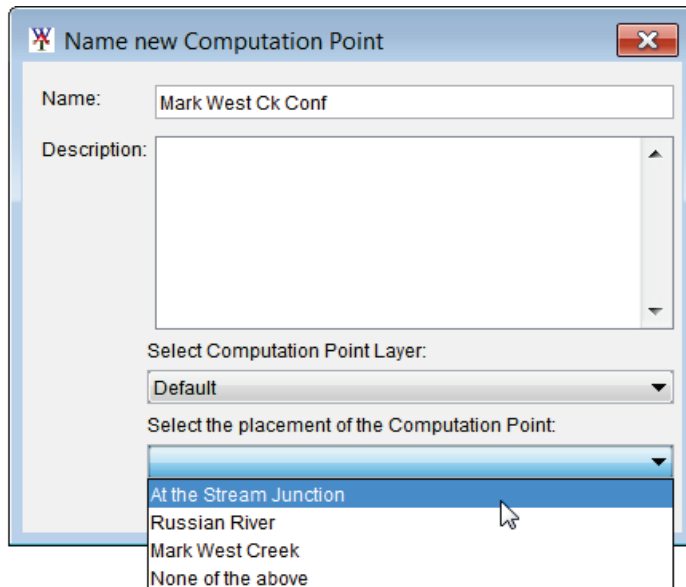

**Figure H.4** Name New Computation Point Dialog Box
4. The **Name New Computation Point** dialog box will open (Figure H.4). Enter the new **Name** (required) and **Description** (optional, but recommended). Click **OK**, the **Name New Computation Point** dialog box will close.